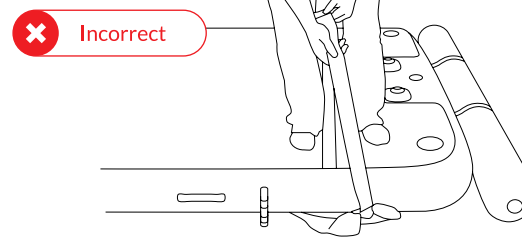
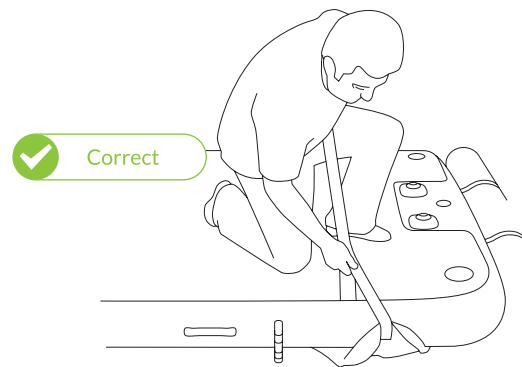

Fig 44 – Never empty ballast while standing
Fig 45 – Release Velcro strap whilst kneeling
Care must be taken on the Product, once the ballast has been emptied as the Product will become unstable and could slide on the water. Do not stand on the Product while emptying the Ballast Bags (Fig 44).
2. Get into a kneeling or seated position where you can reach the top of the strap easily (Fig 45). Never stand whilst emptying the Ballast Bags (Fig 44).
3. Release the top of the strap from the Velcro strip on top of the Platform (Fig 44).